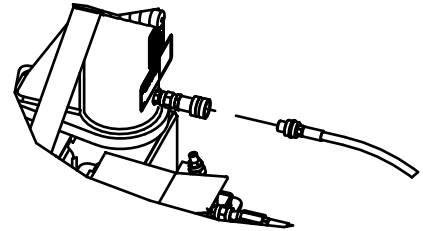

Figure 12
10. Connect the hose from the Tower Pump to the female disconnect protruding from the cylinder in the Tower Pipe (see Figure 12).